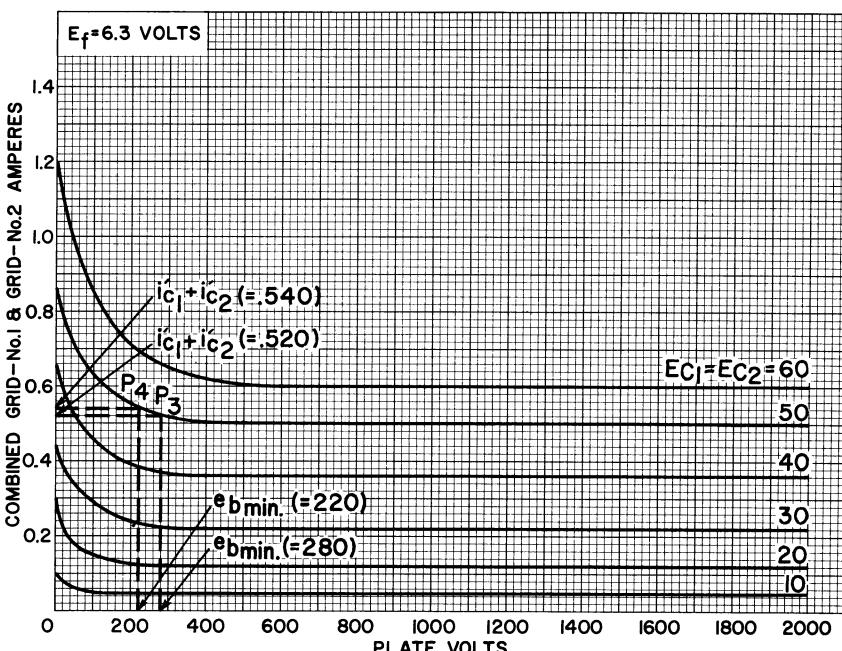

Figure 2: Typical grid characteristics for type 7094 triode connection (grid No. 1 connected to grid No. 2.)
(7) Select a point P3 on knee of one of the curves shown in Figure 1 at which i'_b equals 0.642 ampere. At this point, e_{cm} is + 50 volts and e_{bmin} is 280 volts. From the curves shown in Figure 2, $i'_{c1} + i'_{c2}$ equals 0.520 ampere.